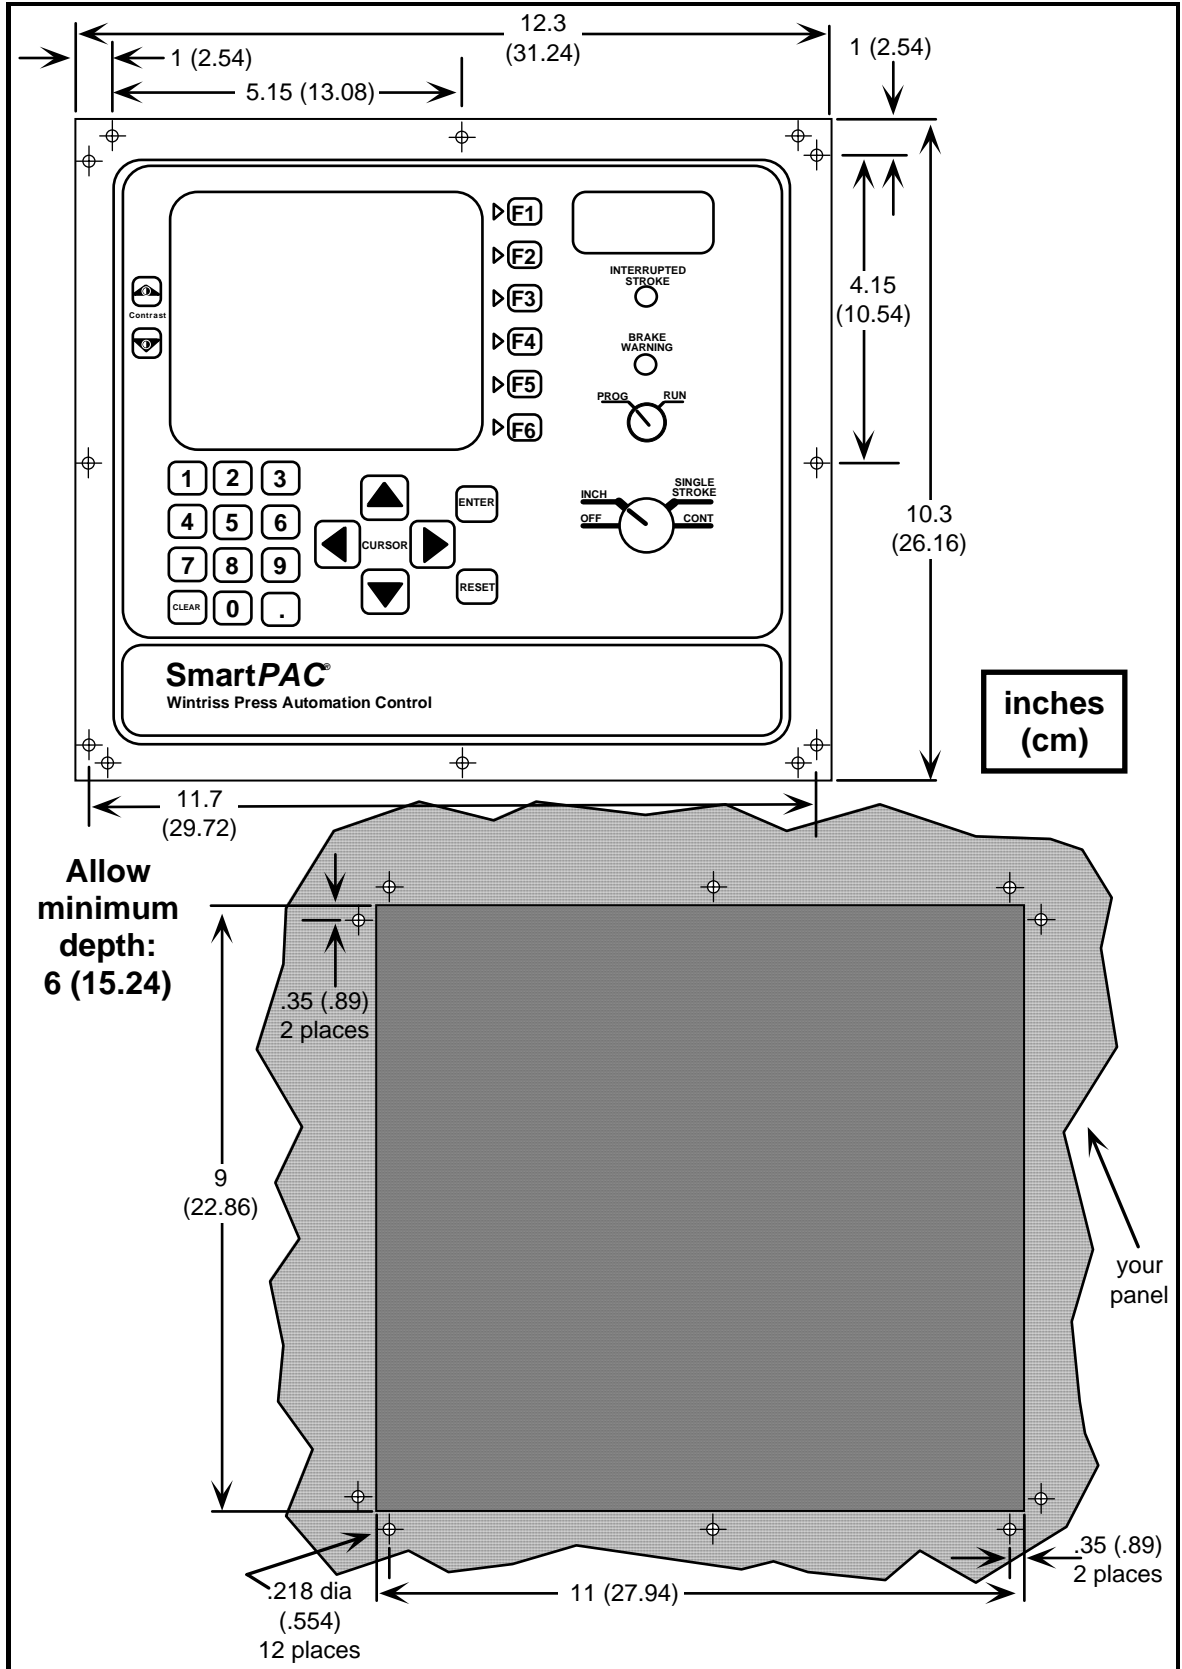

Figure 2-2c. Mounting and cutout dimensions, SmartPAC panel mount
2. Cut out a hole in your panel enclosure, and drill and tap twelve holes for #10-32 screws. Refer to Figure 2-2c for mounting and "cutout" dimensions.